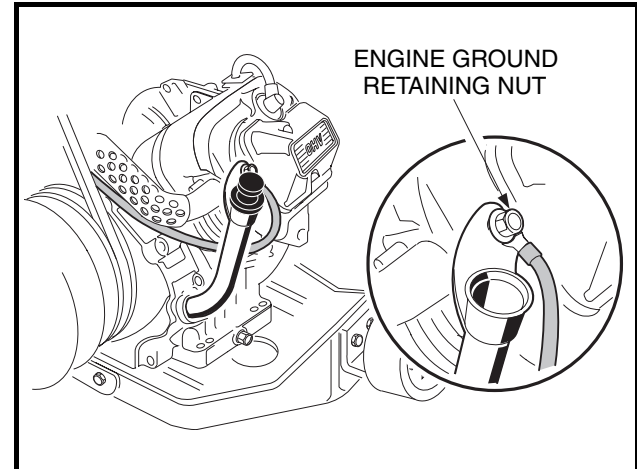

Figure 11-10 Engine Ground Cable Test
- 3.1. Place the red (+) probe of the multimeter on the ground cable terminal end located on the oil filler bracket on the engine (**Figure 11-10, Page 11-16**). Place the black (–) probe on the vehicle frame. The reading should be continuity. If the reading is incorrect, clean and tighten cable connections. If the connections are good and the reading is incorrect, repair or replace the cable.